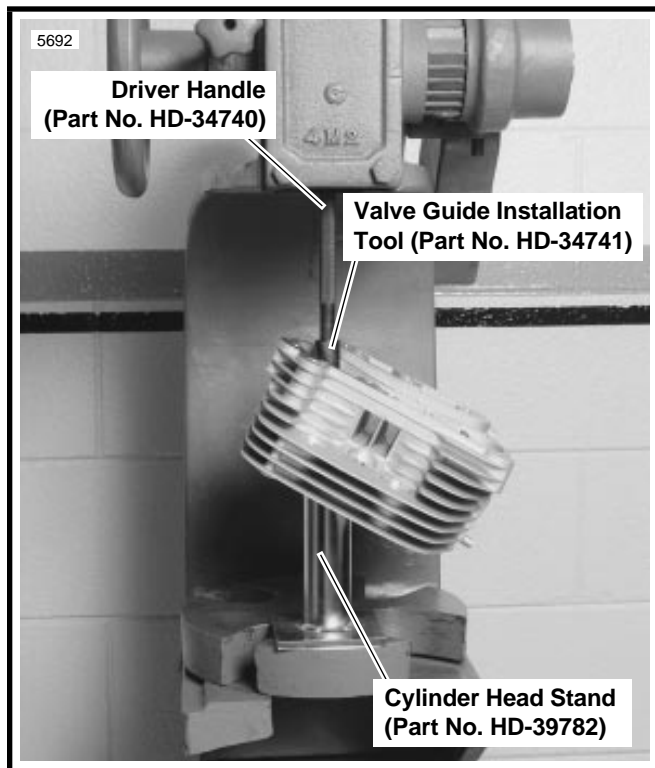

Figure 3-19. Installing Shoulderless Valve Guide
4. See Figure 3-19. Install shoulderless guides using VALVE GUIDE INSTALLATION TOOL \(Part No. HD-34731\) and DRIVER HANDLE \(Part No. HD-34740\). Press or drive guide until the tool touches the machined surface surrounding the guide. At this point, the correct guide height has been reached.